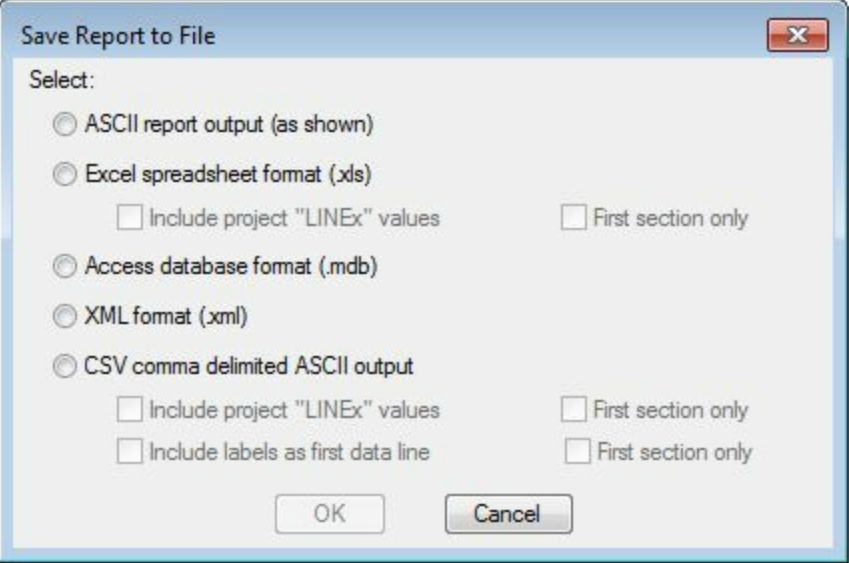

Figure-9. Save Report to File dialog box
- Click on the **Save to File** button if you want to save the report in a separate file. The **Save Report to File** dialog box will be displayed; refer to Figure-9.